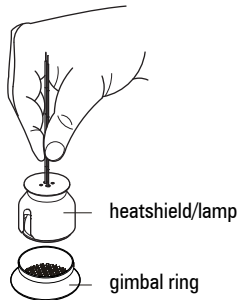

Figure 4
1. Remove lamp gimbal from body of luminaire. Gently pull on the lamp holder leads to remove heatshield/lamp assembly from gimbal ring (fig 4).